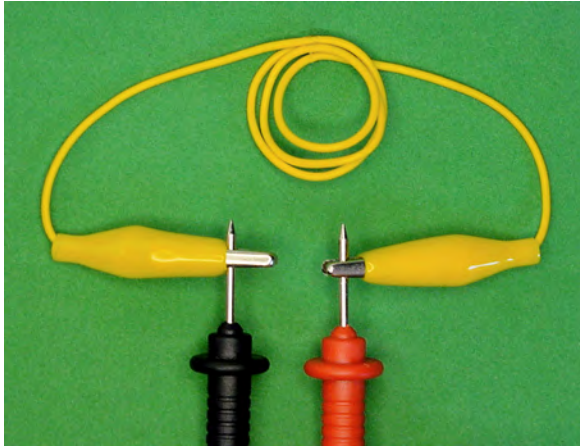

Figure 8-11. Making a connection with alligator jumper leads
6. Instead of touching the multimeter probe tips together directly, connect them with an alligator jumper lead (see Figure 8-11). Using a single jumper, attach one alligator clip to the tip of the black probe and the other alligator clip to the tip of the red probe.